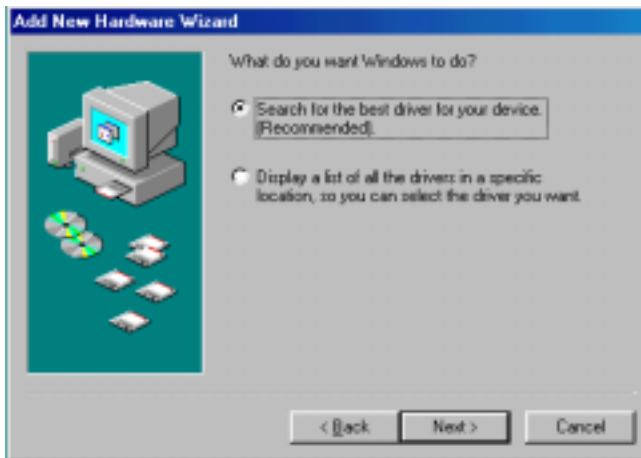

Figure 1-3. Windows 98 – Searching for Driver
3. Select **Search for the best driver for your device**, as shown in Figure 1-3.